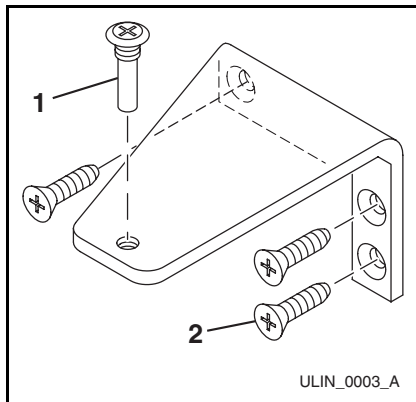

Figure 17
1. Remove top hinge screw pin (**Figure 17, 1**) from door using a Phillips screwdriver. Remove door by tilting forward and lifting off bottom hinge pin.
3. Remove top hinge (three screws) (**Figure 17, 2**) and reinstall hinge screw pin (**Figure 17, 1**).